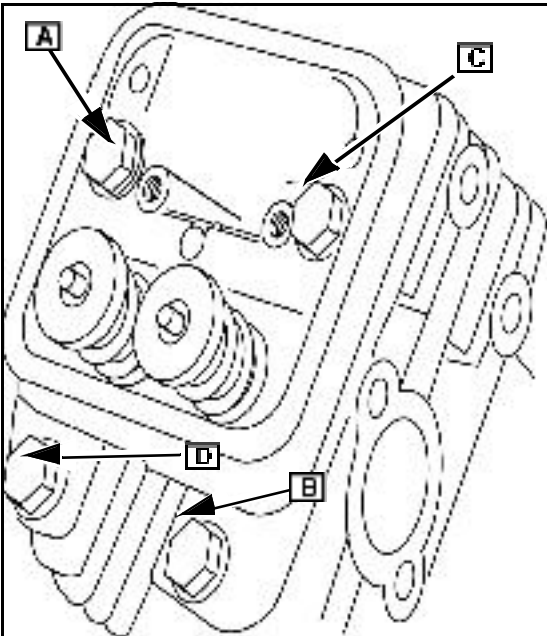

Fig. 7
1. Remove head bolts ([A, B, C & D] Fig.7) and cylinder head.
NOTE: Engines manufactured before 940501xx were equipped with sealing washers under cylinder head bolts (A) and (C) Fig. 7).